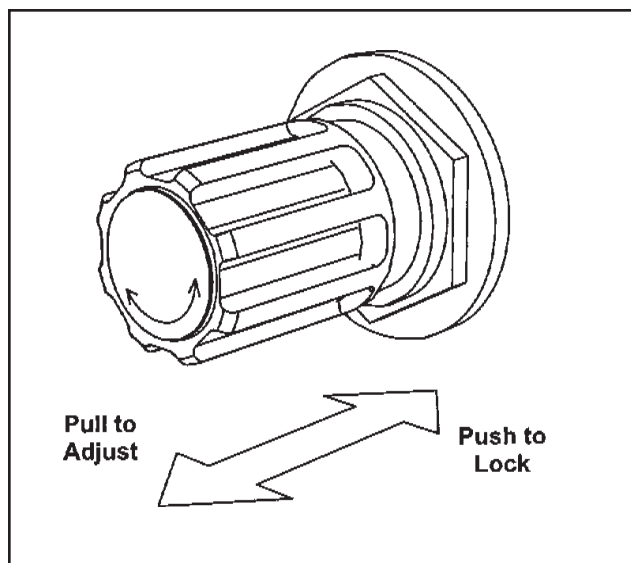

Figure 3-5 – Air Regulator, Upper Taping Head Frame
- 9 **Air Pressure Regulator, Upper Taping Head Frame – Figure 3-5** - Set nominally to control "down" pressure against box. The factory set point is 15 PSIG [1 bar]. The regulator setting is adjusted as necessary to allow free movement of boxes through taping heads while maintaining boxes flaps in fully closed position. Decreasing air pressure will increase down pressure on boxes while increasing air pressure will decrease down force on boxes.
The air regulator is adjusted by pulling out to adjust and pushing in to lock the setting as shown in Figure 3-5.